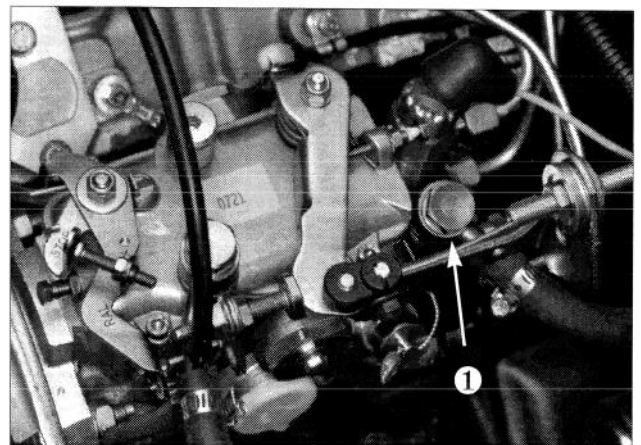

Figure 20
**Note:** It may be necessary to bleed the air out of the fuel line between the fuel filter/water separator and the injection pump. To do this, loosen the fitting on the injection pump (Fig. 20) and repeat bleeding procedure.